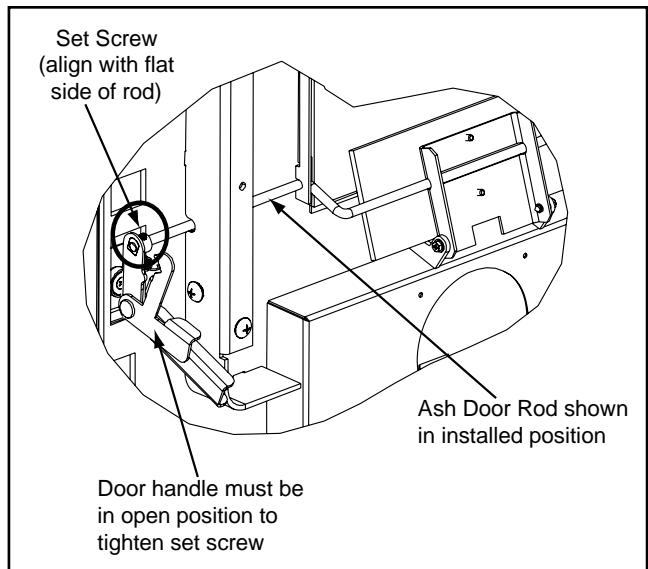

Figure 21.3
6. Install door handle by placing over rod and sliding to the right. While in an open position, line up the set screw with the flat side of the rod and tighten the set screw using a 3/32 Allen wrench. The set screw needs to be snug. **Figure 21.3**.